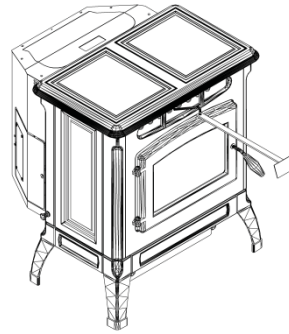

FIGURE 15
- With the door closed clean heat exchanger tubes. (See "**CLEANING**" and Figure 15).
- Heat Exchange Tubes** – Your Breckwell stove is designed with a built-in heat exchange tube cleaner. This should be used every two or three days to remove accumulated ash on the tubes, which reduces heat transfer on the P4000. Insert the handle end (with hole) of the cleaning tool onto the cleaning rod (refer to figure 15). The cleaner rod is located in the grill above the stove door. Move the cleaner rod back and forth several times to clean the heat exchanger tubes. Be sure to leave tube cleaner at the rear of the stove.